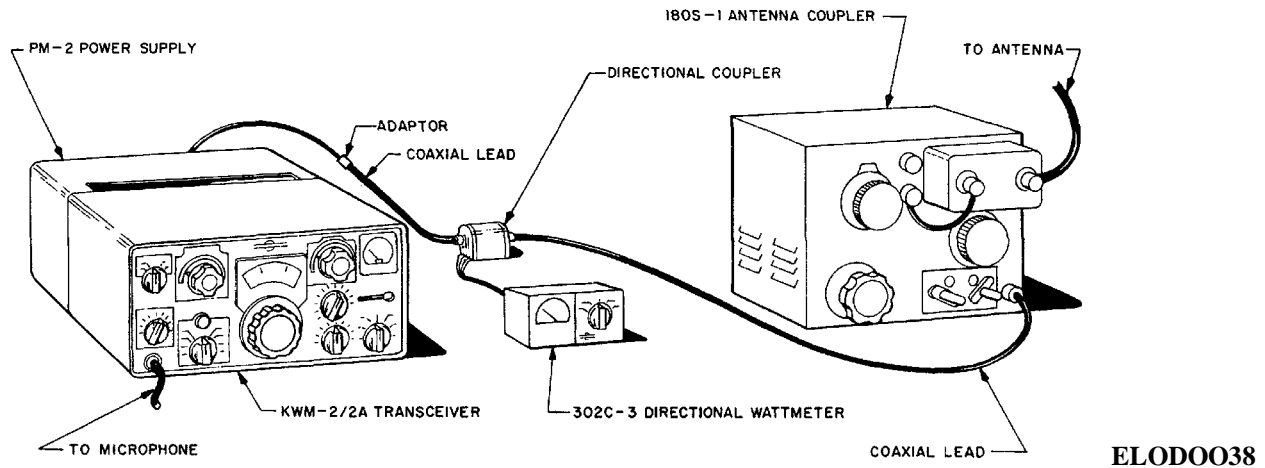

Figure 12-2. CU-2004/U and Collins KWM-2/2A, hookup diagram.
### 12-3. Installation (fig. 12-2)
- a. Connect the Collins KWM-2/2A, 302C 3 directional wattmeter and antenna coupler as shown in figure 12-2. Leave the coaxial lead disconnected from the coupler at this time.